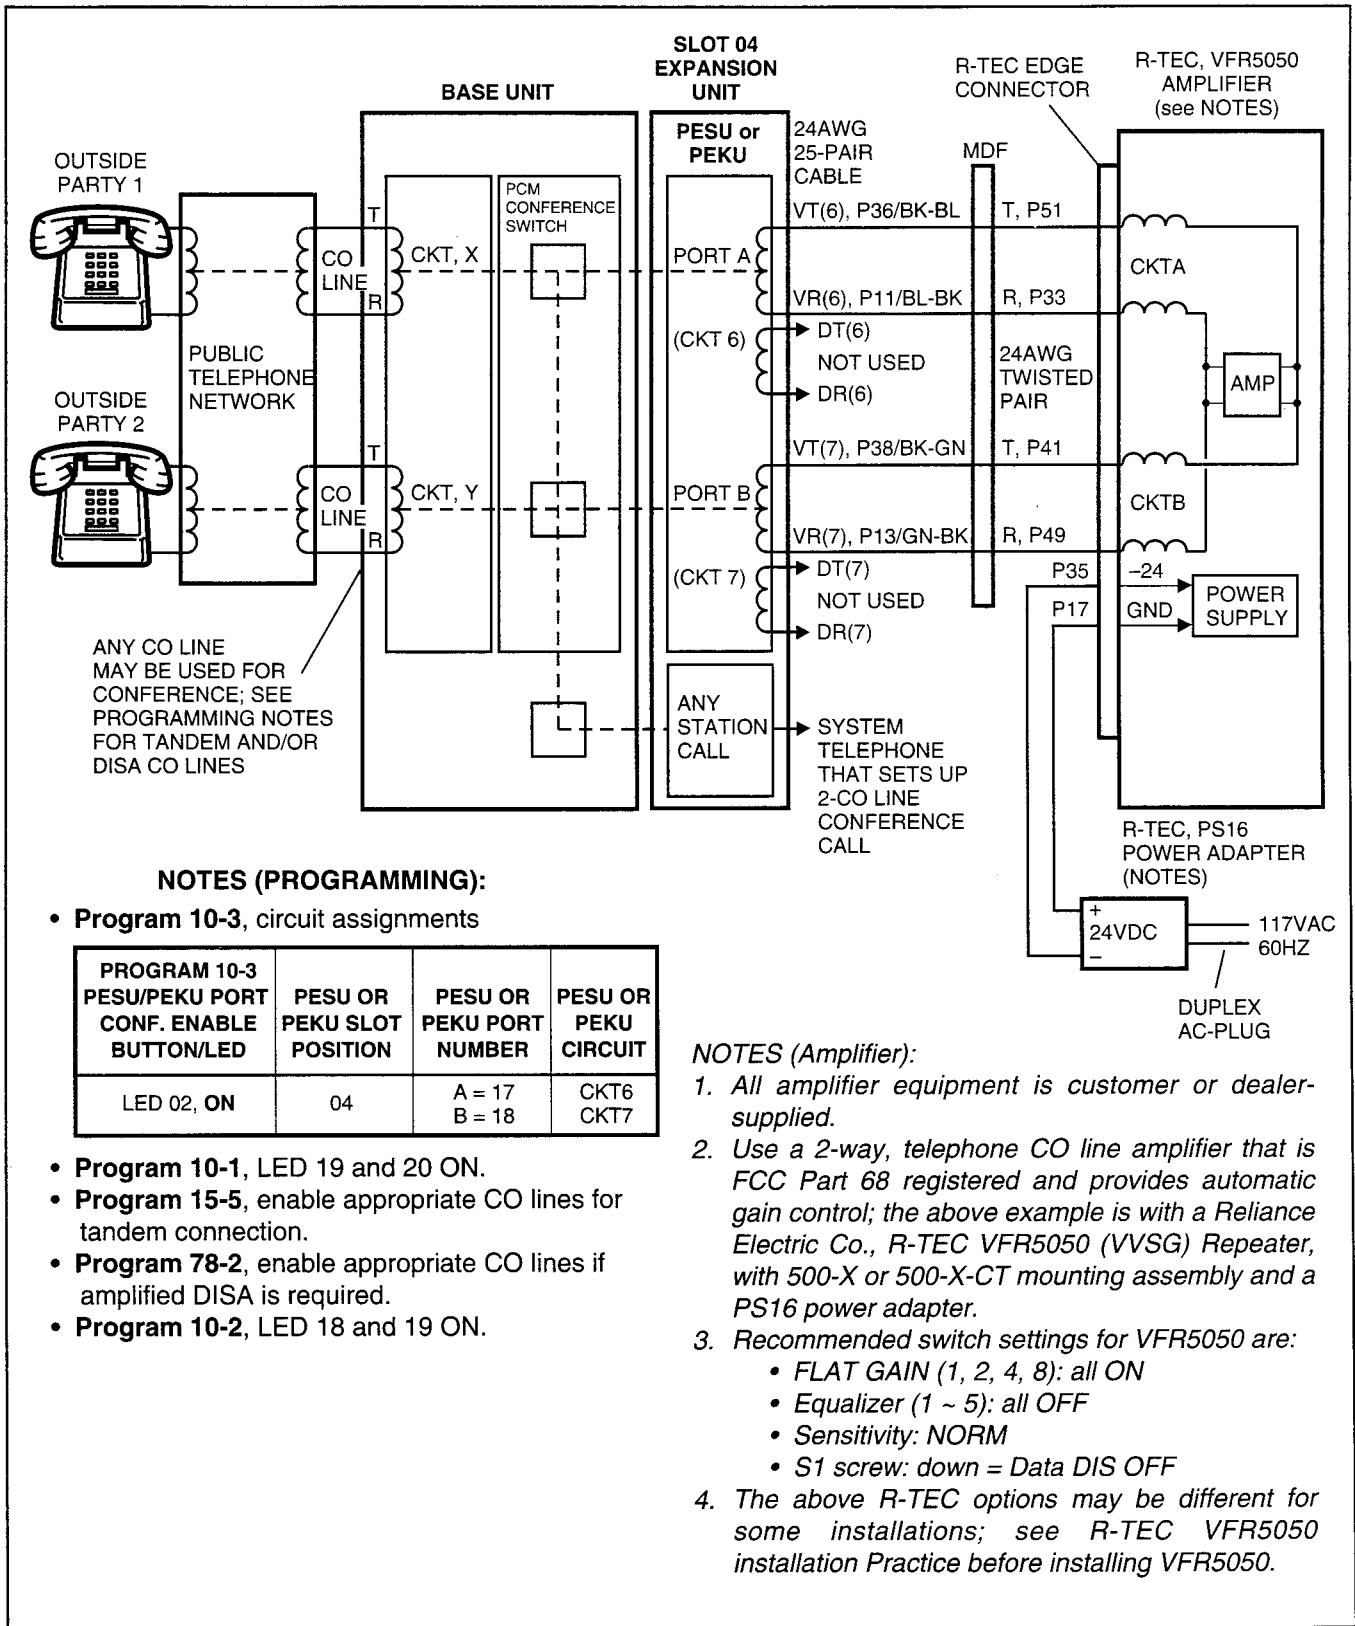

FIGURE 7-39
11.02 Amplified Talk Path. Figure 7-39 provides a functional diagram of a two-CO line amplified conference connection (an R-TEC VFR5050 amplifier is used here). The talk path for the connection is as follows: outside party 1—public telephone network—CO, CKTX—STRATA DK16—PEKU, port A—into AMP, CKTA—Out AMP, CKT B—PEKU, port B—STRATA DK16—CO, CKTY—public telephone network—outside party 2. This path is two-way so when outside party 2 talks, the talk level is amplified in the reverse direction.
11.04 Installation. Connect a two-way amplifier to the STRATA DK16 system in accordance with the following steps (see Figures 7-39 and 8-27).
- 1) At the main distribution frame (MDF), connect the voice pair (VT, VR, port A) of circuit 6 on the designated PEKU or PESU PCB to one input of the customer-supplied two-way amplifier. In the example in Figure 7-39, this is CKTA (Central Office Side A) of the VFR5050.
- 2) At the MDF, connect the voice pair (VT, VR, port B) of circuit 7 on the designated PESU or PEKU PCB to the other input of the amplifier. In the Figure 7-39 example, this is CKTB (subscriber side B) of VFR5050.